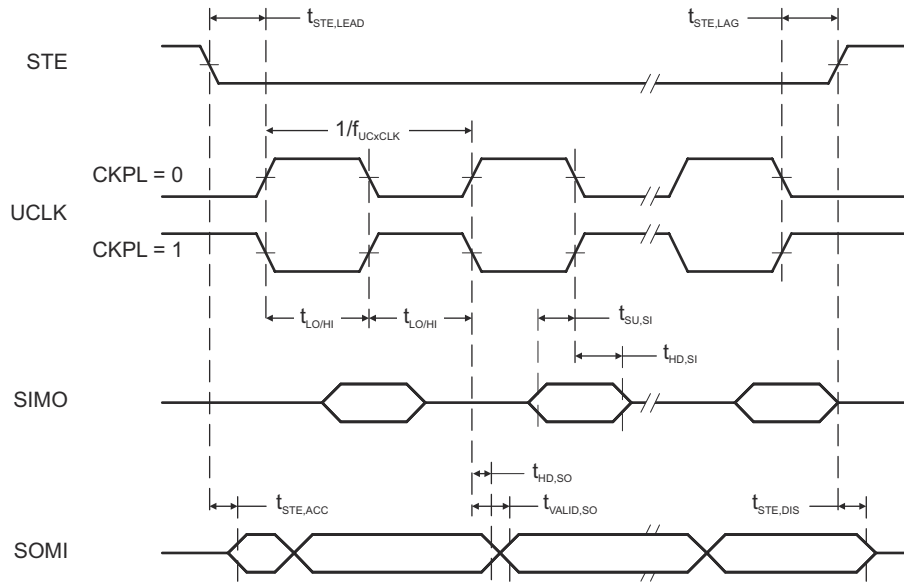
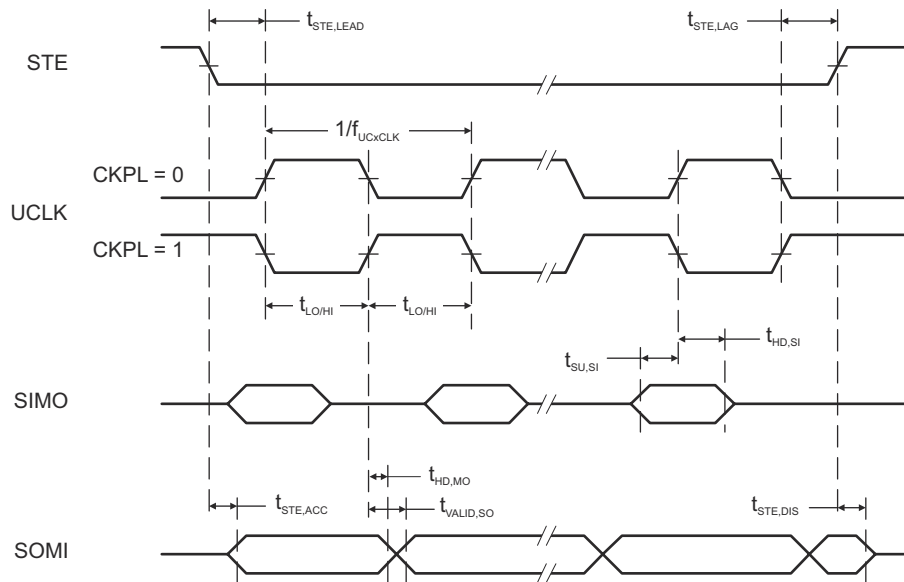

Figure 7-14. SPI Slave Mode, CKPH = 0
Figure 7-15. SPI Slave Mode, CKPH = 1
(2) Specifies the time to drive the next valid data to the SOMI output after the output changing UCLK clock edge. See the timing diagrams in Figure 7-14 and Figure 7-15.
(3) Specifies how long data on the SOMI output is valid after the output changing UCLK clock edge. See the timing diagrams in Figure 7-14 and Figure 7-15.